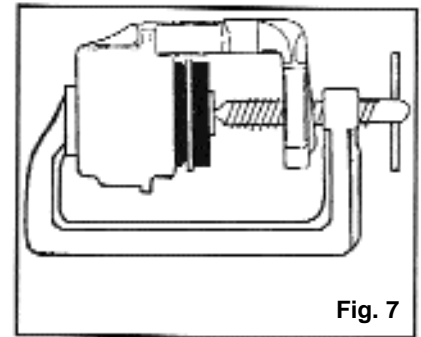

Fig. 7
7. Except for the caliper types mentioned above, use a large c-clamp and one of the old pads to slowly compress the caliper piston all the way into the caliper (Fig. 7). Keep the c-clamp aligned with the piston to prevent it from being lodged at an angle in the bore. Be careful not to pinch and tear the rubber dust boot around the piston.